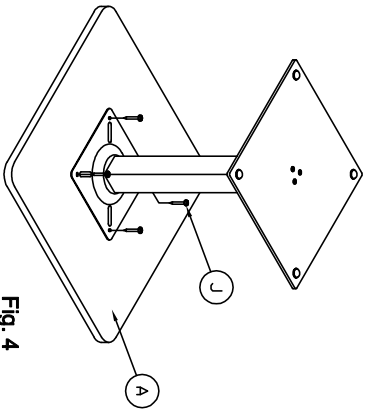

Fig. 4
4. Place Top (A) face down on a clean flat surface. Center Base Assembly on Top and attach Base using Screws (J), 4 places as shown in Fig. 4.